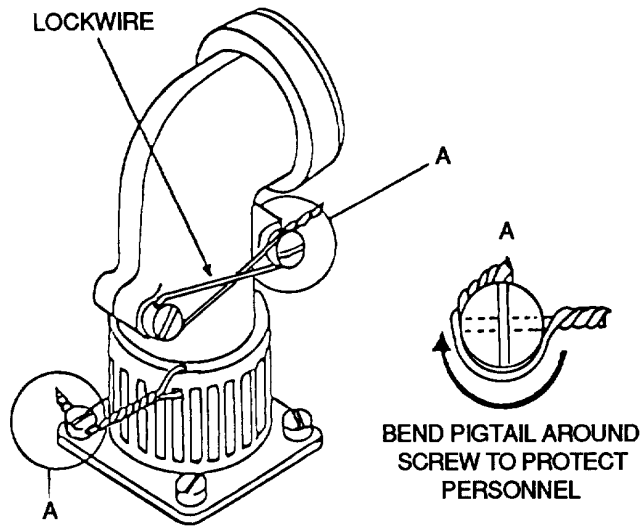

Figure 10. Lockwiring Split Shell Connectors (Typical)
23. **SPLIT BACKSHELLS.** Split backshells or two-piece backshells are held together by two fillister head screws, which are lockwired using the single wire method (Figure 10).